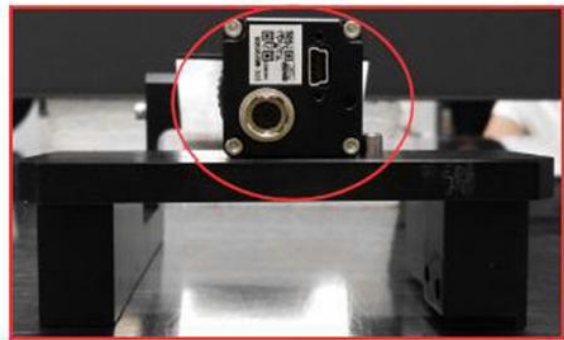

Figure 3 Optical Camera Removal
3. Flip the upper bracket and loosen 2 x screws (M4X8) as below Figure 3.